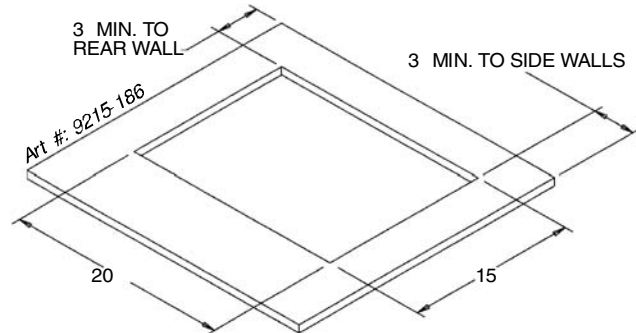

Figure 1
- Cut opening in accordance with figure 1 shown below.